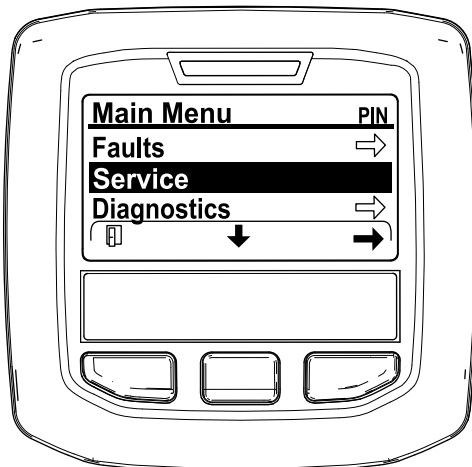

Figure 42
2. Navigate to the MAIN MENU, press the center button to scroll down to the SERVICE MENU, and press the right button to select the SERVICE option (Figure 42).